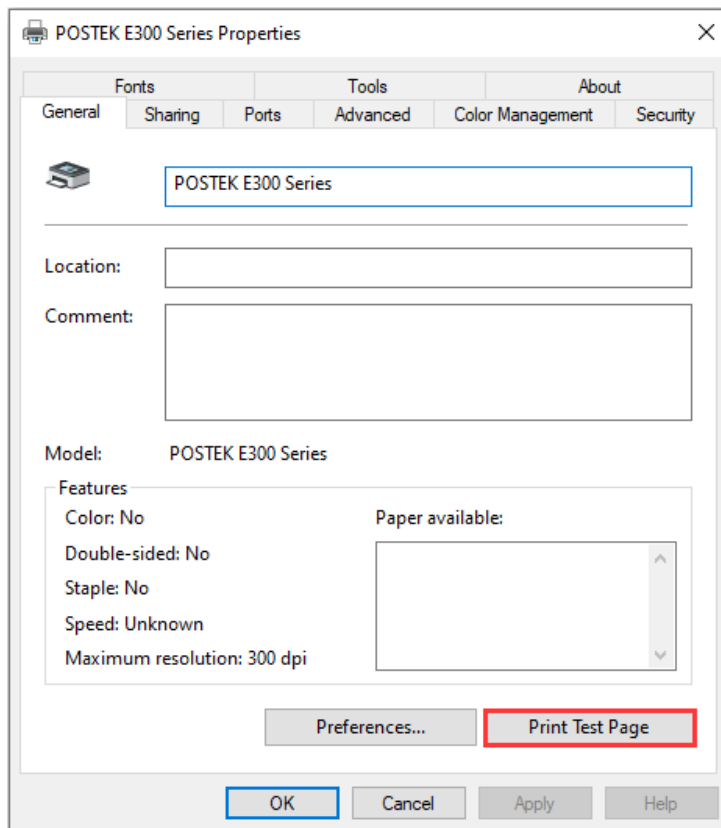

Figure 2-26 Print Test Page
- 9. Print a test page to see whether the printer is connected properly, as shown in Figure 2-26.